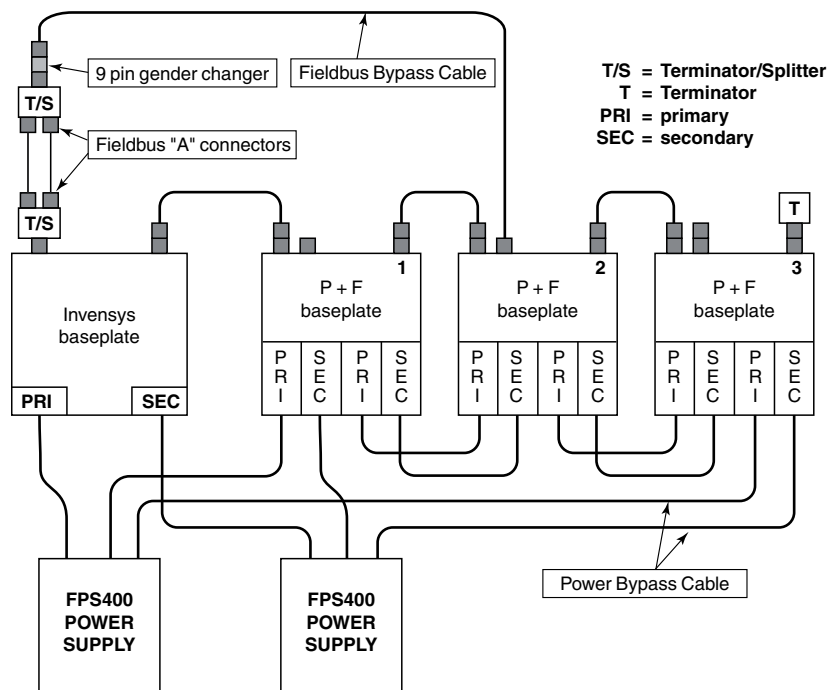

Figure 1-5. Bypass Connection First Baseplate
1. Assemble the Fieldbus Bypass Cable (shown in Figure 1-5) using:
4. Install the fieldbus bypass cable as shown in Figure 1-5.
5. Install the power bypass cables as shown in Figure 1-5. When installing power bypass cables, ensure that the primary power goes to the power source and the secondary power goes to the secondary source.